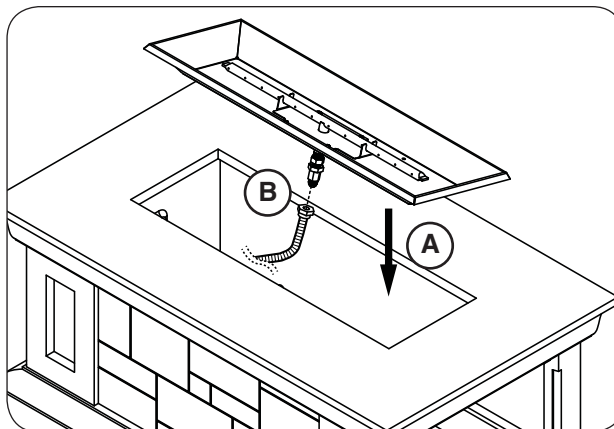

Fig. 17-3 Place burner and connect flex
3. Drop the burner assembly into the opening in the center of the firetable top (see Fig. 17-3, A).
4. Locate the flex connector (marked OUT) that is coming off the valve assembly. Route it to the connection found on the underside of the burner assembly and connect. Tighten securely. See Fig. 17-3, B.